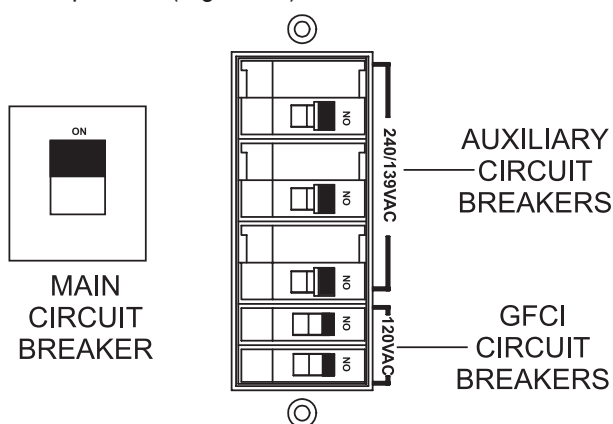

Figure 53. Main, Aux. and GFCI Circuit Breakers (ON)
- Place the **main, GFCI, and aux.** circuit breakers in the **ON** position (Figure 53).